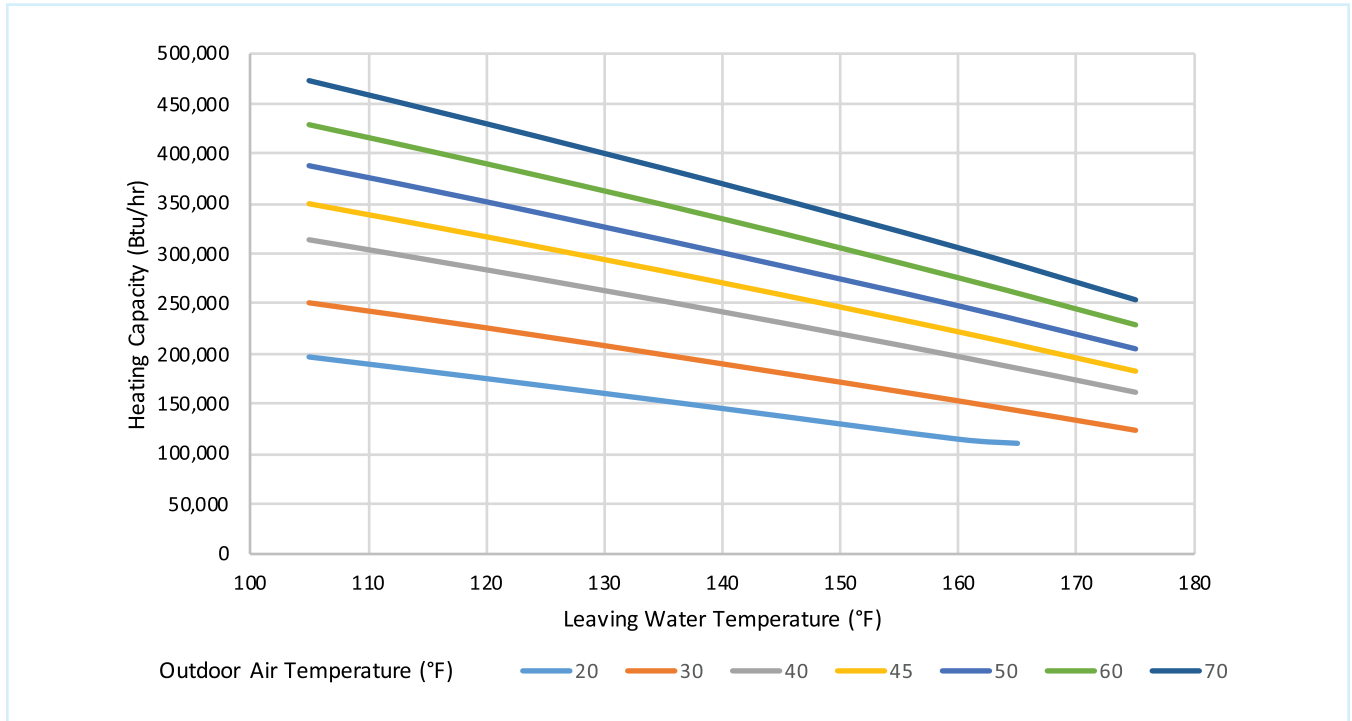

Figure 3: AW0350 Heating Capacity vs. Leaving Water Temperature
- » The heating load must not exceed the AW0350's rated capacity at all expected outdoor air temperatures (refer to **Figure 3**). The intended building (or process) must tolerate reduced or zero heat beyond the AW0350's rated capacity.
- » The heating load must not exceed the entire bank's rated capacity at all expected outdoor air temperatures (refer to expected performance shown in **Figure 3**). The intended building (or process) must tolerate reduced or zero heat beyond the bank's rated capacity.
Compare the capacity profile (capacity at all expected outdoor air temperatures) of the AW0350 (refer to expected performance in **Figure 3**) with the heating load profile.